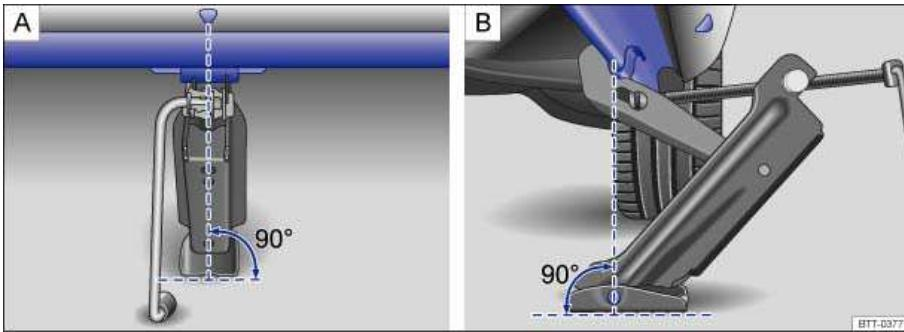

Fig. 339 Jack in position at the left rear lift point.
9. Position the jack so that its base is directly underneath the lift point => **fig. 339**, making sure that the entire base of the jack rests securely on the ground.
10. Align the jack and wind up the jack claw at the same time, until the claw cradles the vertical rib underneath the vehicle => **fig. 339 A / B**.
- Position the jack only at the described vehicle lift points. Before you raise your vehicle, always make sure the jack claw properly grips the rib under the sill so that the jack does not slip off when you are raising the vehicle ⇒ fig. 339.